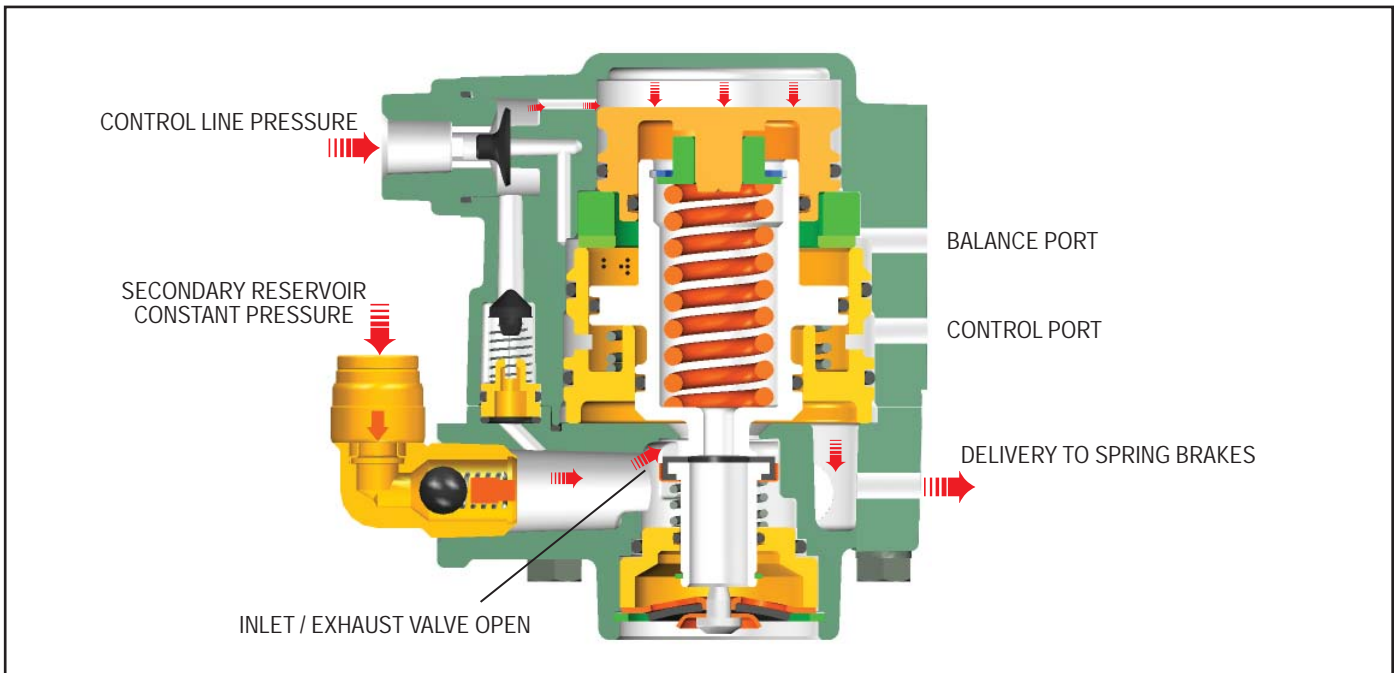

FIGURE 5 - CHARGING LESS THAN 107 PSI
**CHARGING SPRING BRAKE ACTUATORS BELOW 107 PSI (FIGURE 5)**